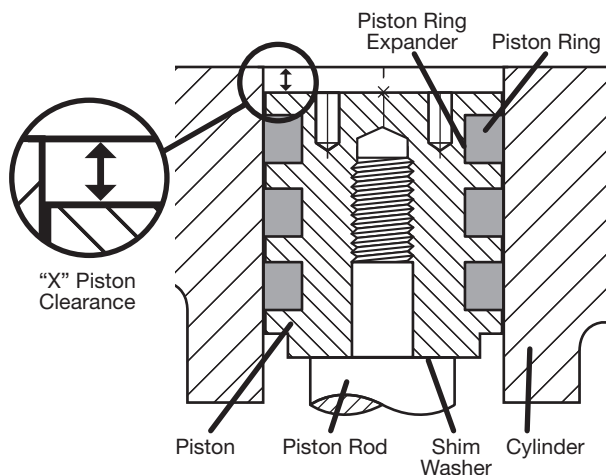

Figure 4.4B: 2nd Stage Piston for Model 351 Only.
10. Next, measure dimension "X" in figure 4.4B. If necessary, add or remove shims until the piston clearance meets the tolerances listed in Appendix B.